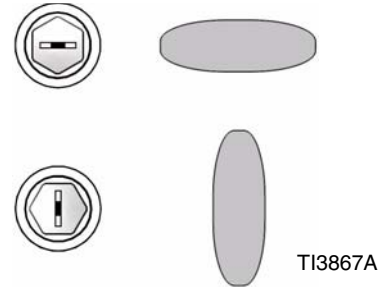

FIG. 2
1. Remove the existing air cap (round or flat) from the Fusion Gun and replace it with the adapter (1). Thread the adapter onto the mix chamber until it bottoms out.
2. Insert the packing (2) through the center of the adapter (1) with the stepped end facing the mix chamber.
3. Place the stud wall tip (4) onto the packing (2) and tighten the air cap (3) with light hand force.
4. Adjust the tip orientation with a standard 5/16 in. nut driver (provided with gun). See FIG. 2.